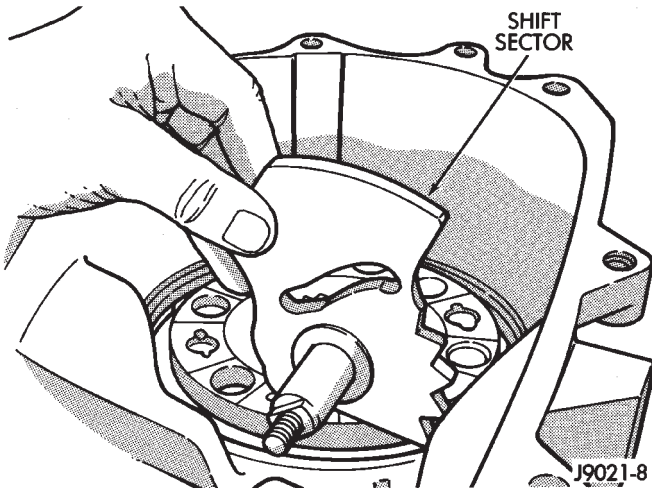

Fig. 40 Installing Shift Sector
(22) Install shift sector in the case (Fig. 40).